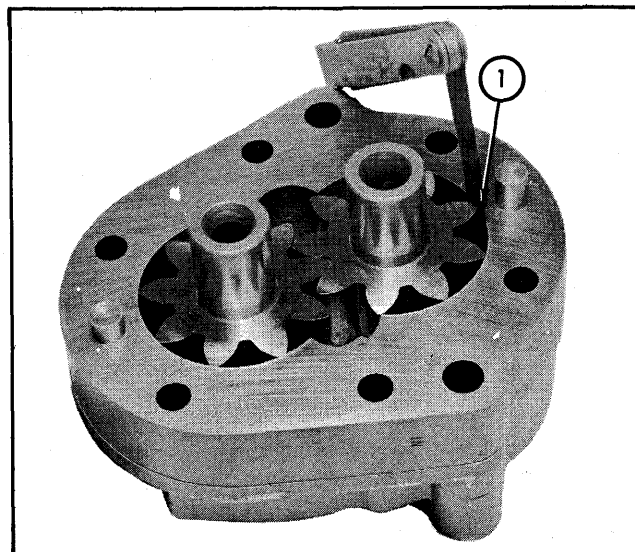

Fig. 28
Before removing gears (6 and 15), check clearance between gears and gear plate as shown in Fig. 28. If clearance exceeds .005 inch, a new gear plate must be used. Remove gears, gear plate, and wear plate (18).